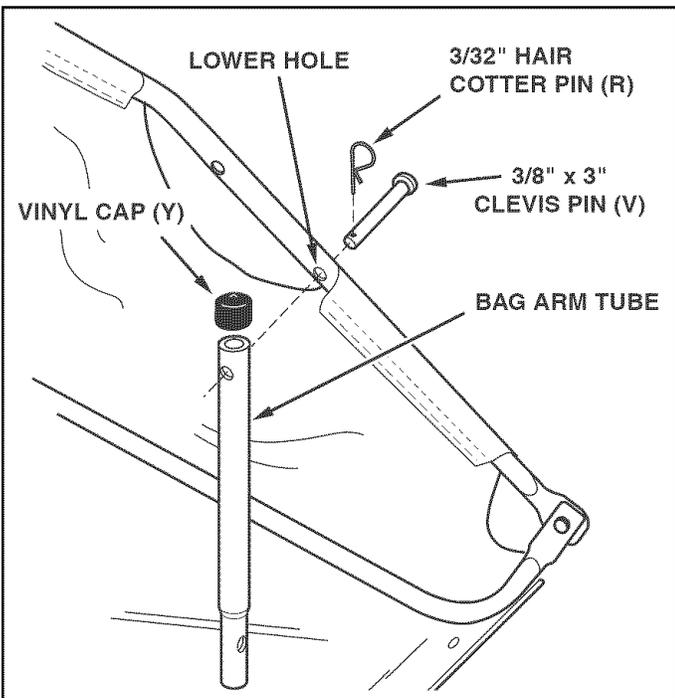

FIGURE 20
STEP 14: (FIGURE 20)
- Insert a 3/8" x 3" clevis pin (V) through the lower hole in each upper hopper side tube. Next assemble a bag arm tube onto each clevis pin and secure it with a 3/32" hair cotter pin (R).
- Assemble a vinyl cap (Y) onto the end of each bag arm tube.
- To adjust your sweeper brushes to the best operating height, loosen the adjustment knob and push down on the height adjustment lever to raise the brush, or push up on the lever to lower the brush. See figure 20. Best adjustment is when the brush setting is 1/2" down into the grass. Always mow the grass to an even height before sweeping.